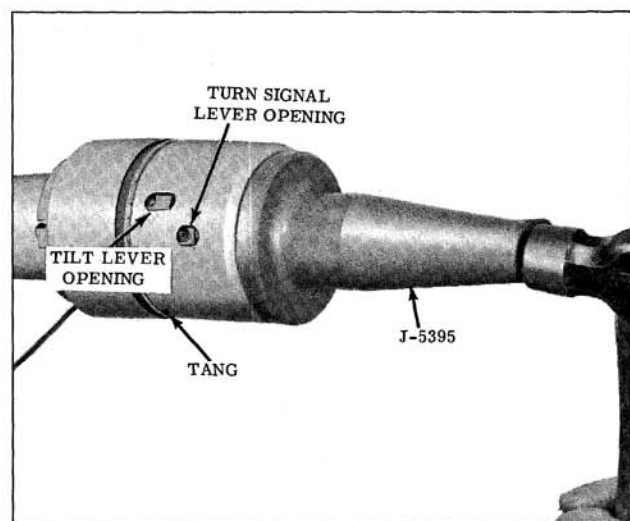

Fig. 8-118 Installing Turn Signal Cover
1. Install the turn signal cover with Tool J-5395, pinion seal installer, aligning the openings for the tilt and turn signal levers, and with the small tang on the lower edge of the cover in line with the groove in the actuator housing. (Fig. 8-118)